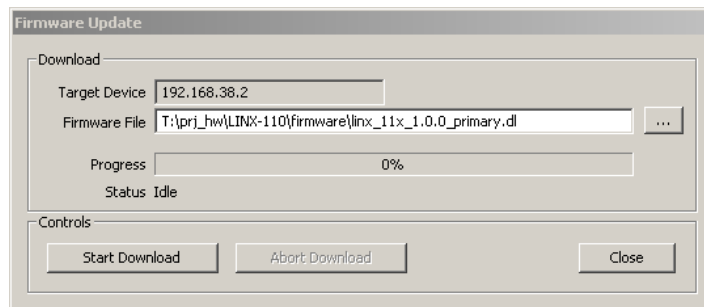

Figure 149: Firmware Update dialog of the LINX-10X Configurator.
6. This opens the Firmware Update dialog as shown in Figure 149. Click on the button “...” and select the firmware image (“linx_lc3k_3_0_0_primary.dl”).